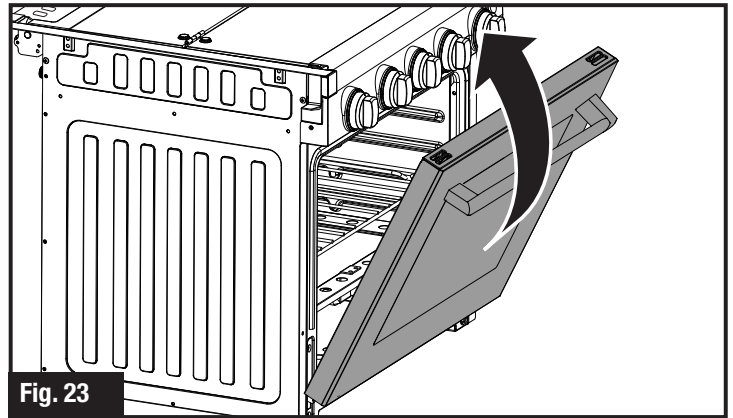

Fig. 23
4. Close the door until it stops. It will be about halfway open. (Fig. 23)